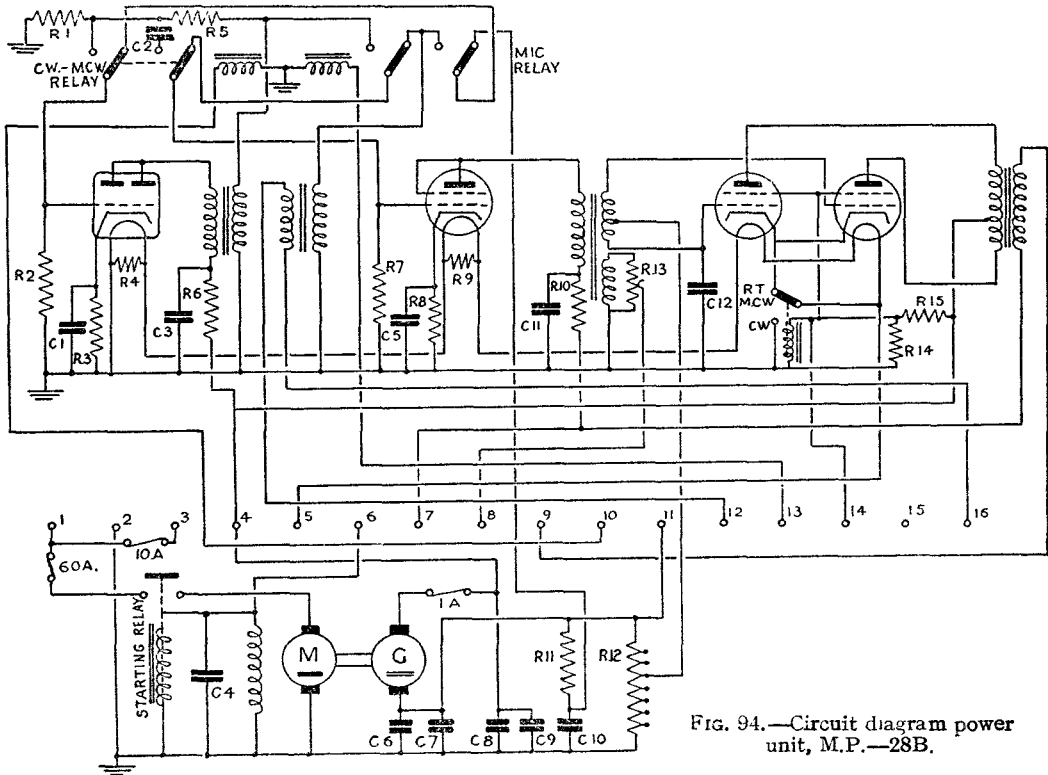

Fig. 94.—Circuit diagram power unit, M.P.—28B.
4. Modulator (fig. 94).—The modulator amplifier is mounted with the